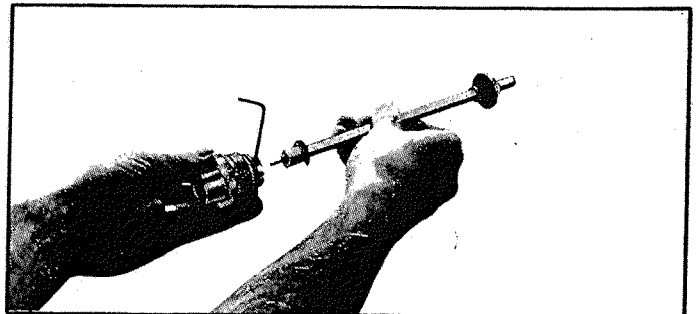

FIGURE 5
C. Loosen Set Screw (13) with a $\frac{3}{16}$ " hex. key and separate Actuator (2) from Actuator Plug (21) on end of Actuator Rod (3). See Figure 5.